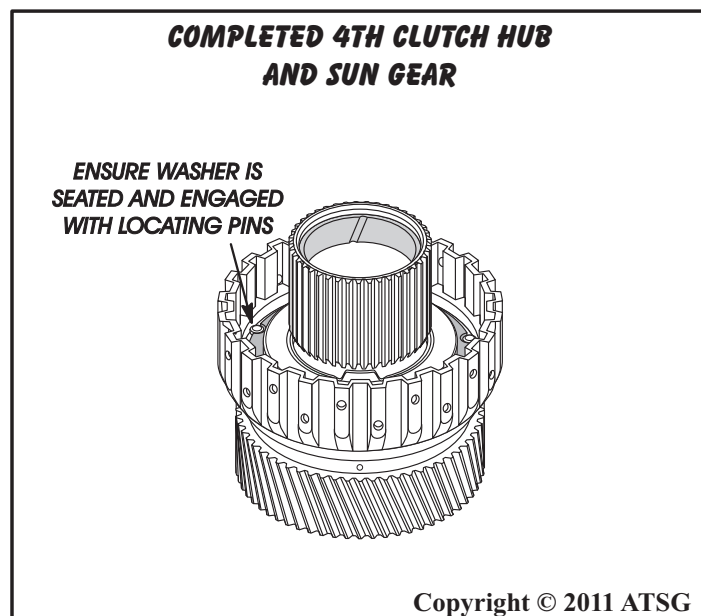

Figure 87
7. Double check to ensure that number 7 selective thrust washer and number 6 thrust bearing are properly seated, as shown in Figure 87, and set the completed 4th clutch hub/reaction sun gear aside for the final assembly process.